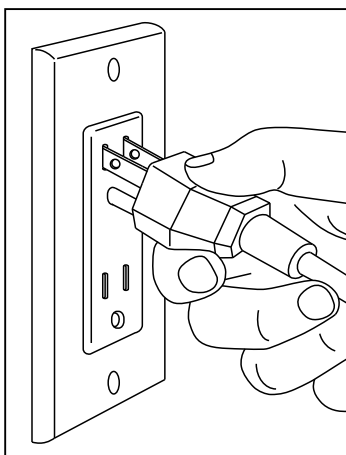

figure 1
1. Plug-in the sander's AC power cord to the power source (110-120Va.c. output). The warning "beep" sounds would be occurred after the plug is securely plug-in to the power source and the LED indicator shows "Solid Red " color at the moment.- see figure 1.